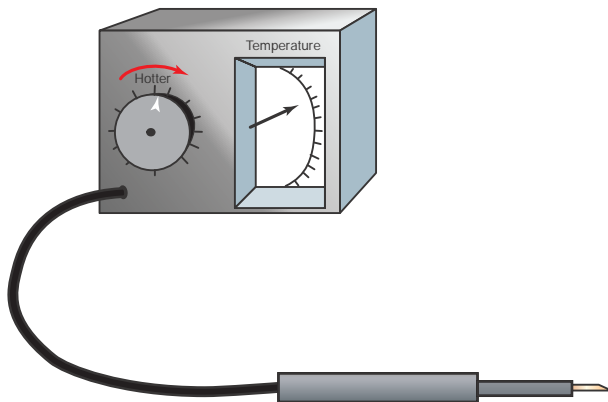

FIGURE 19-4 Control console for resistance soldering. © Cengage Learning 2012
- Less chance of damaging parts—A heat source can be used that has a maximum temperature below the temperature that may cause damage to the parts, Figure 19-4.